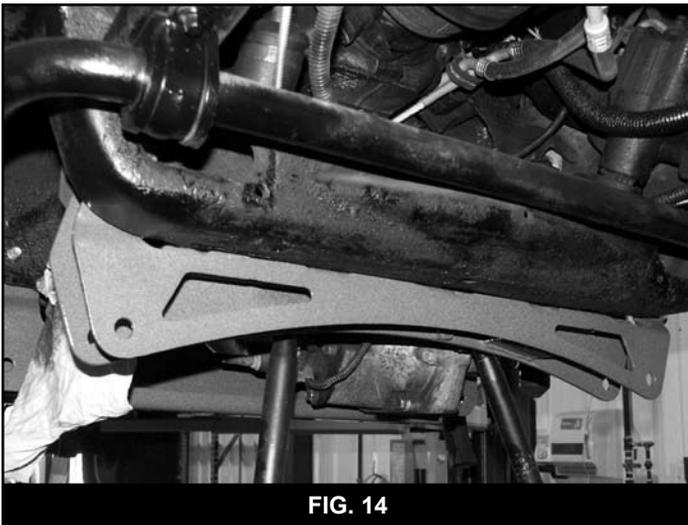

FIG. 14
32. Install the front crossmember in the OE front lower control arm pockets (# 01136). Attach using two 14mm x 100mm bolts, nuts and 9/16" SAE washers (Bolt pack #510) from the rear to the front. Leave loose (Fig. 14).